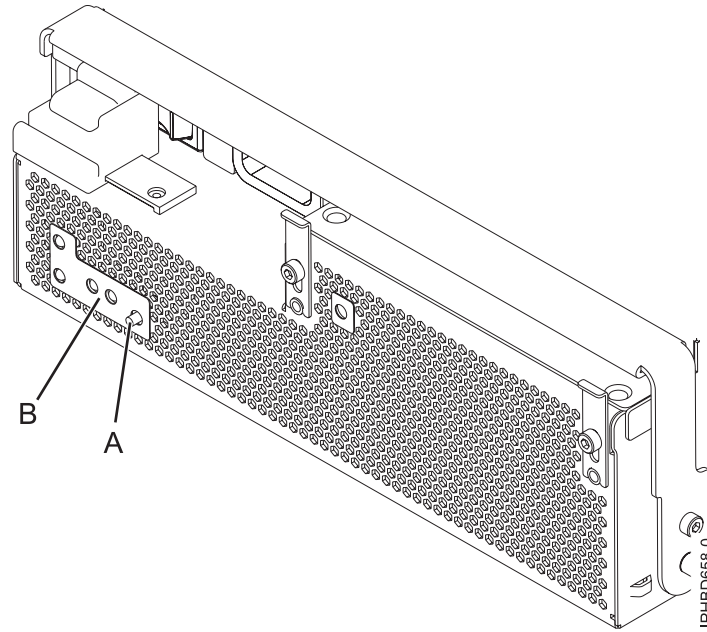
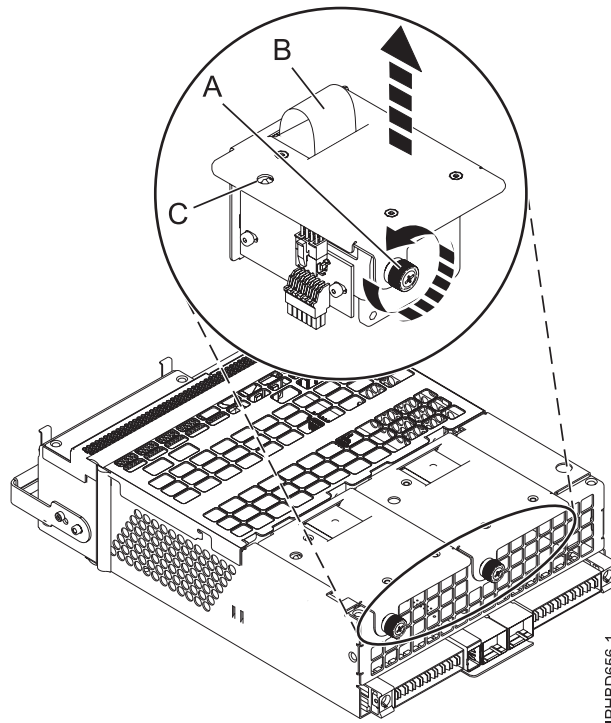

Figure 10. Fan fault LED and fan identify button
Figure 11. Removing a power supply fan
Note: If a fan fails, the amber fan fault LED on the front of the offline converter assembly (OCA) (B), shown in Figure 10 on page 12, is on solid.
- a. Identify the failing fan by pressing the fan identify button (A) shown in Figure 10. An amber left or right fan-fault LED (C) on solid, as shown in Figure 11, indicates the faulty fan.
- b. Loosen the thumbscrew (A) that holds the fan in the power-supply assembly, as shown in Figure 11.
- c. Use the recessed fan handle **(B)** to pull the fan out of the power-supply assembly, as shown in Figure 11 on page 12.